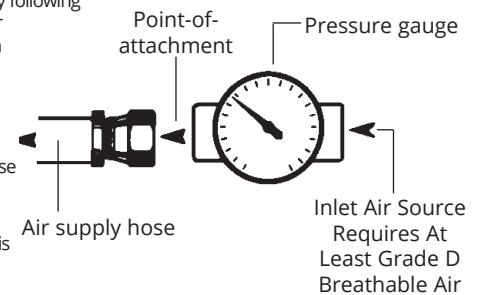

Figure 2
4. Adjust the air pressure at the point-of-attachment to within the approved pressure range (Figure 2). See the Supplied Air Pressure Table in the user manuals.